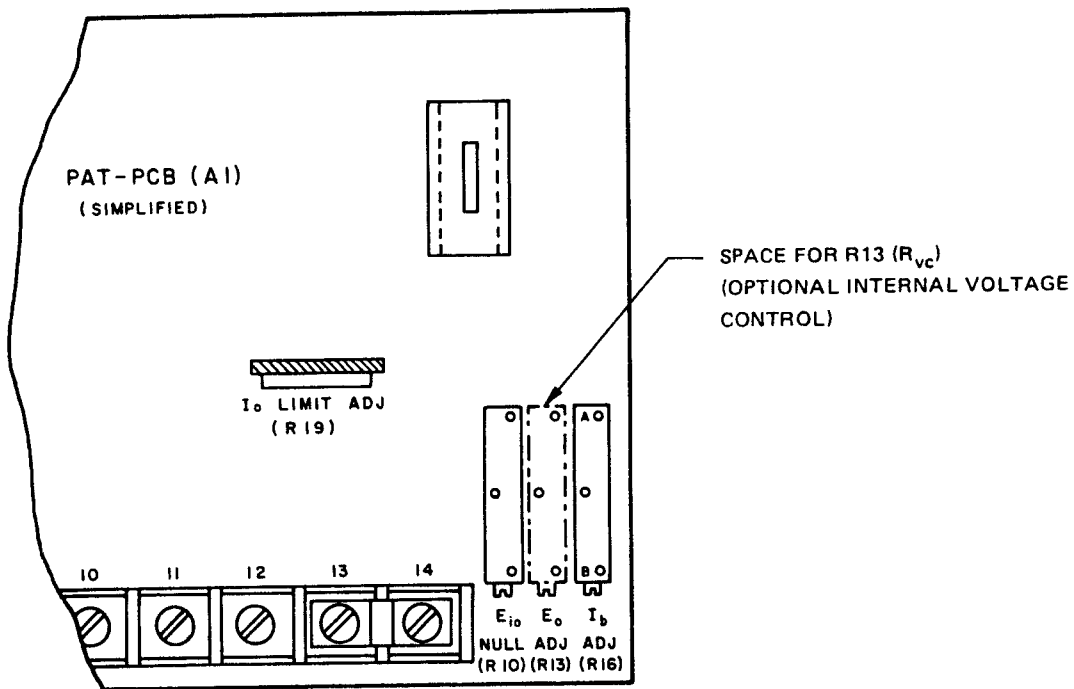

FIG. 5-2 INSTALLATION OF OPTIONAL CONTROLS.
5-6 CURRENT LIMITING CONTROL ADJUSTMENT (Refer to FIG. 5-2) A single-turn potentiometer (R19) conveniently located on the topside of the printed circuit board serves as an adjustment for limiting the output current through the range of 5% to 105% of its maximum rated value. It is factory-adjusted for approximately 5% above the maximum rated output current and has to be reset only if a component should have to be replaced or if a lower limit than the preset value is desired.
5-7 INSTALLATION AND ADJUSTMENT OF THE (OPTIONAL) VOLTAGE CONTROL RHEOSTAT (R_{vc}): REFER TO FIG. 5-2.
- Refer to FIG. 5-2. The voltage control resistance (R_{vc}) may be installed internally in the space on the printed circuit board as shown.